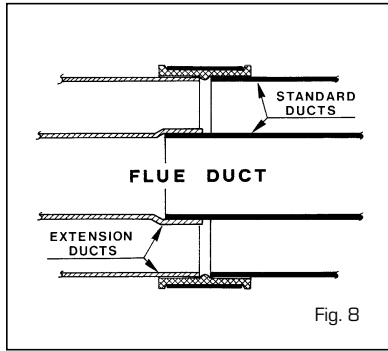

Fig. 8
- Determine whether an extension duct is required with reference to the Z dimension shown in fig. 8.
- If an extension duct or ducts is/are to be used, the flue and air ducts should be joined before proceeding to the next section. The extension ducts should be joined to each other and to the standard ducts using the following procedure (fig. 8):